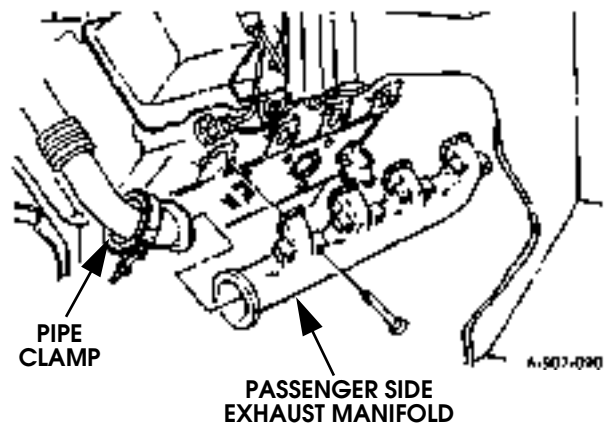

Figure 2-69: Right Side Exhaust Manifold Removal.
5. Remove right side manifold bolts and remove manifold and gasket. Discard gasket (Figure 2-69).